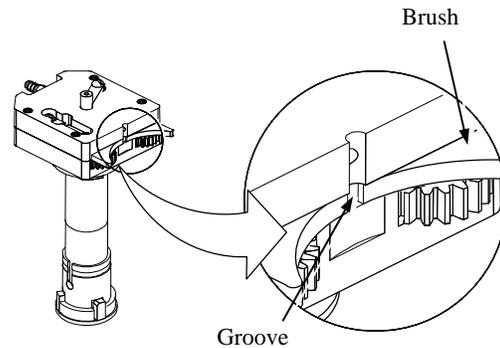

Figure 28 Inspecting the Brush
9. Examine the brush. See Figure 28.